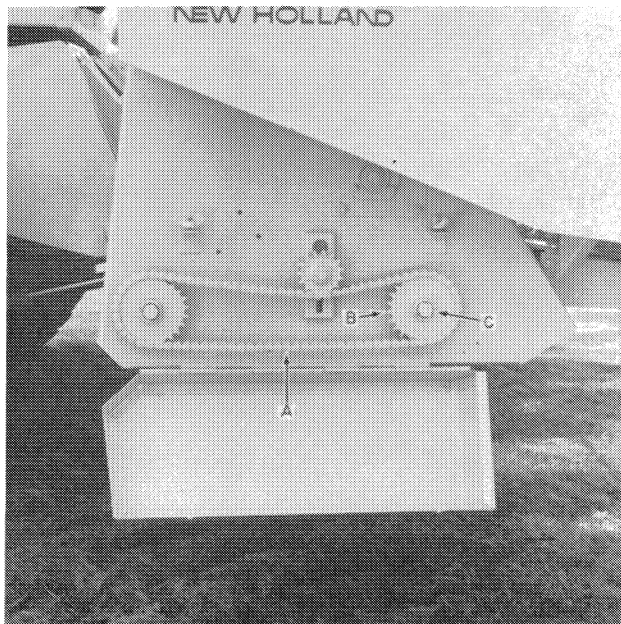
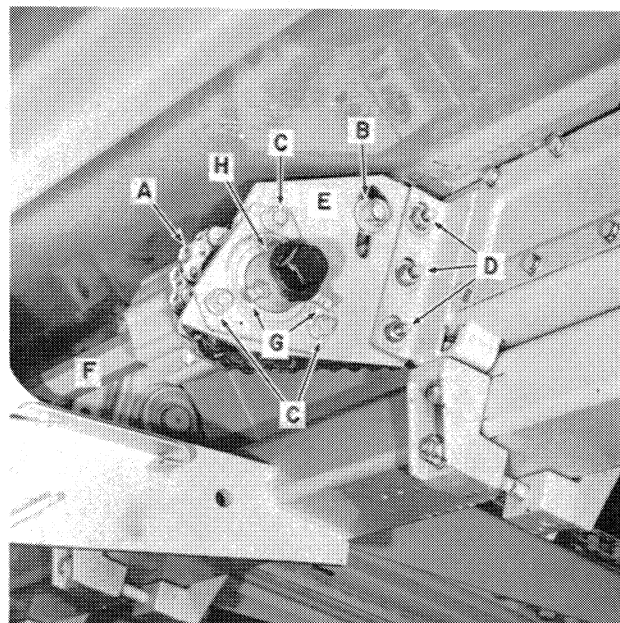

Figure 2-1
Figure 2-4
2. Remove chain, A, Figure 2-1.
5. Loosen cap screw, B, Figure 2-4, to relax chain tension. Disconnect the slip clutch to row unit drive chain, A. Separate the chain at the connector link.
8. Move the shaft assembly (shaft and clutches), F, Figure 2-4, toward the center of the corn head until the end of the shaft next to the drive sprocket, B, Figure 2-1, has come out of its bearing.
9. To remove the shaft assembly, F, Figure 2-4, move the shaft down, toward the rear, and back toward the drive sprocket (outside) end of the shaft.
11. Loosen setscrews, G, Figure 2-4, on the collar which secures the bearings to the row unit drive shaft. Remove bearings and collars, H. Note the location of the bearings, bearing flangettes, and lock collars.